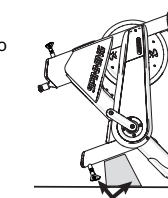

Figure 4
1. Stand the bike frame on its back end and place a piece of packaging foam under the bike frame (Figure 4) to protect the seat adjustment pop-pin stem from damage.